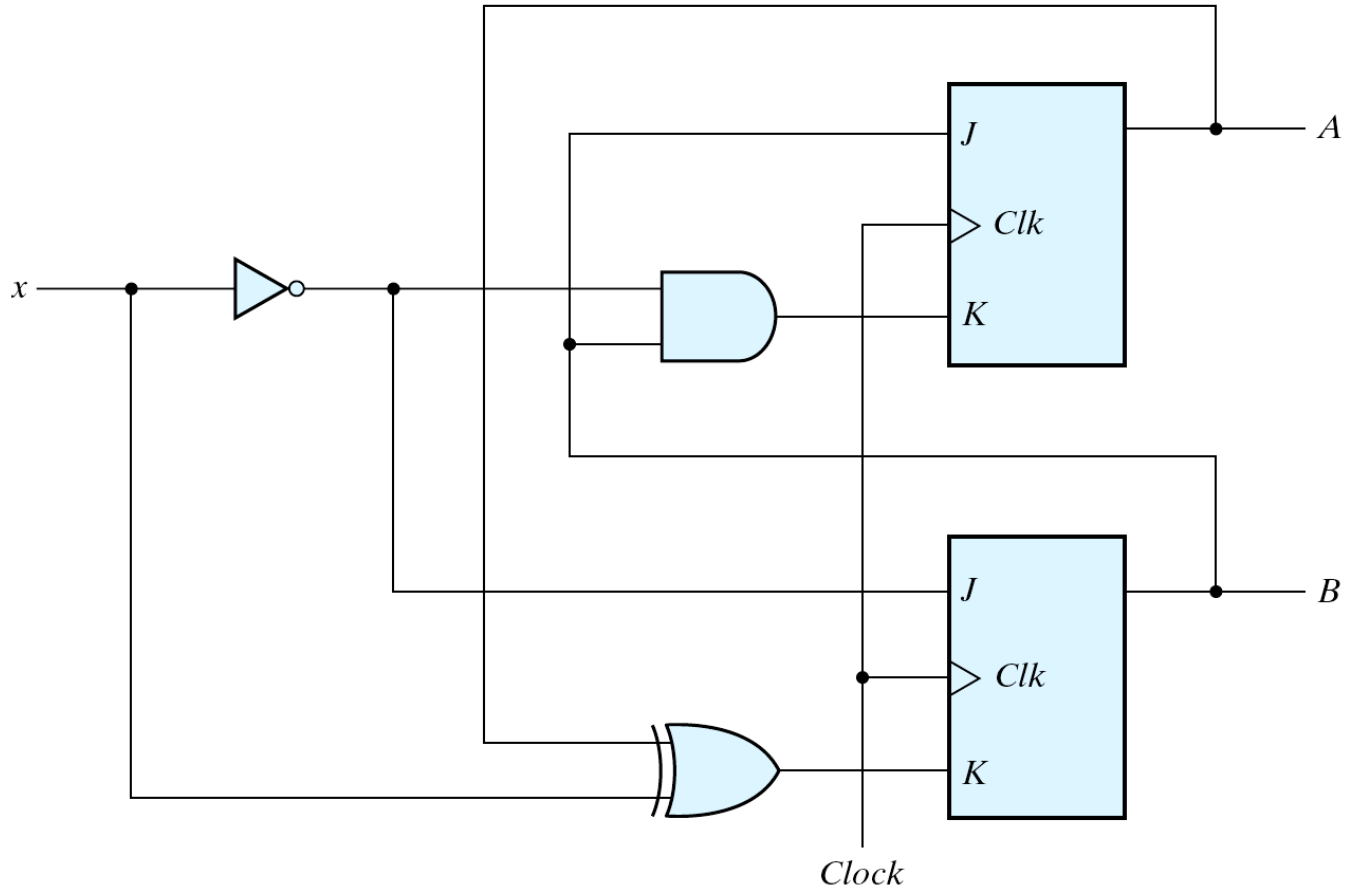

Fig. 5.18 Sequential circuit with *JK* flip-flop
- Simulate the sequential circuit shown in Fig. 5.18
- ◆ Drive the **input equation** and **state equation** of the sequential circuit shown in Fig. 5.18
- ◆ Drive the **state table** and the **state diagram** of the sequential circuit shown in Fig. 5.18